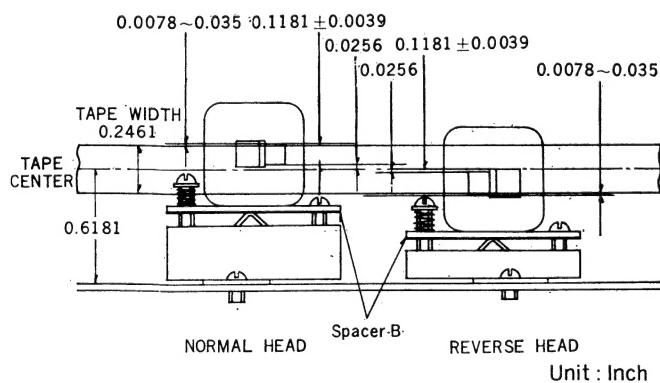

Fig. 2
5. Adjust levels of heads (in relation to Erase Head) as in Fig. 2. For quick check, lift pressure pad assemblies with fingers and note position of tape in relation to heads.